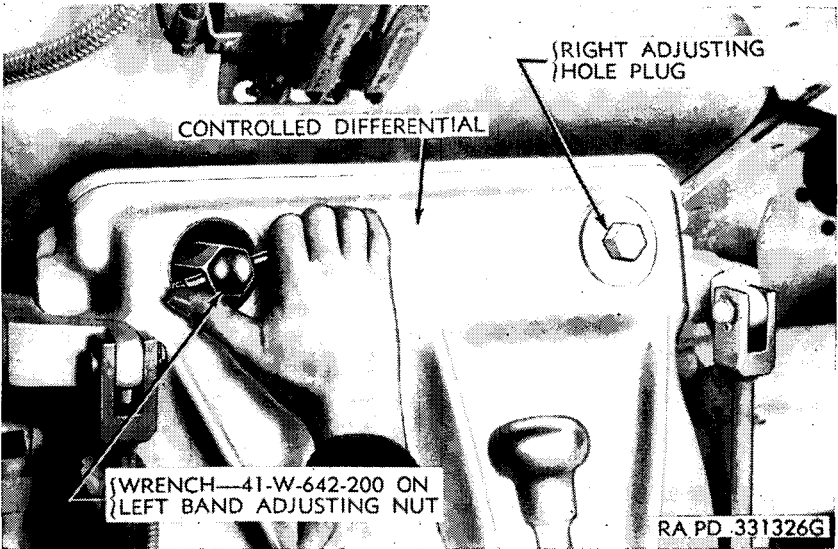

Figure 121. Adjusting steering brake band.
- (1) *Remove adjusting hole plugs.* Remove band adjusting hole plug from each side of controlled differential.
- (2) *Adjust band.* Insert a $1\frac{1}{16}$ -inch socket wrench or wrench-41-W-642-200 through plug hole and engage adjusting nut (fig. 121). Turn adjusting nut clockwise to tighten band.